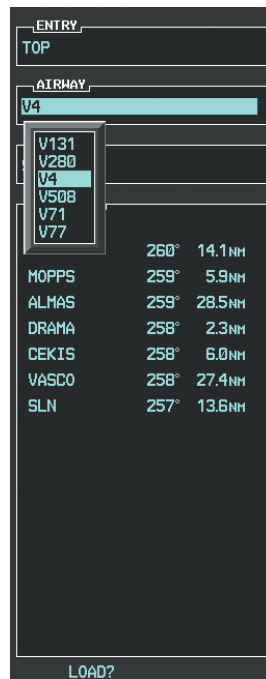

Figure 5-118 List of Available Airways for TOP
- f) Select the **LD AIRWY** Softkey to display the list of available airways for TOP as seen in Figure 5-118.
g) Turn either **FMS** Knob to highlight V4 in the list as seen in Figure 5-118.